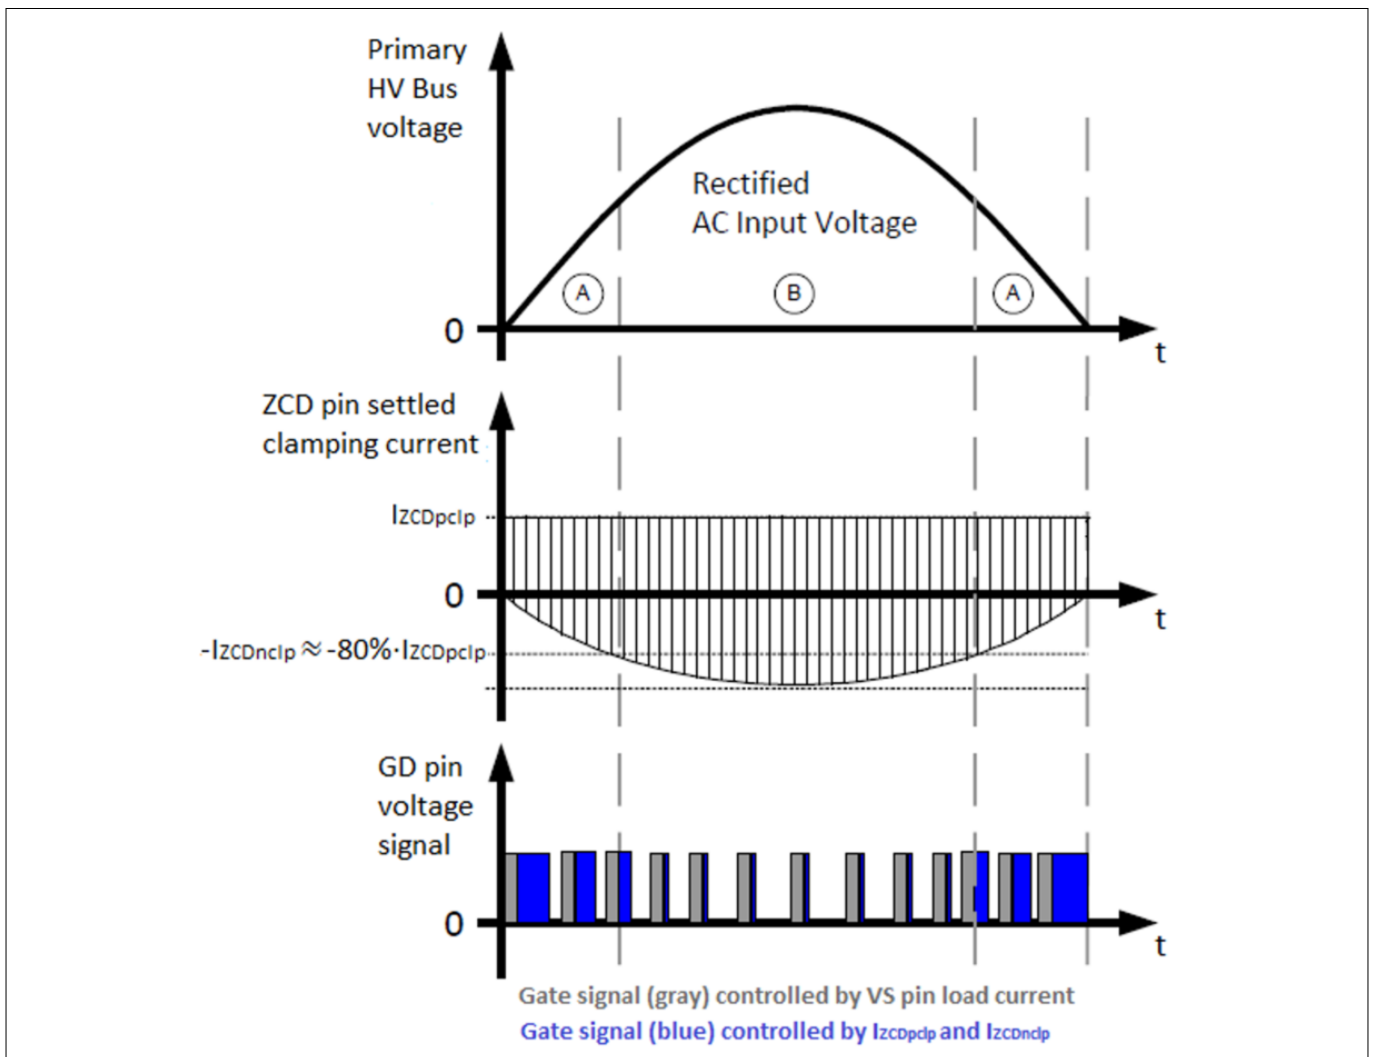

Figure 8 ICL8820S THD correction with on-time extension near AC input voltage zero crossing
As shown in Figure 8 area A, ICL8820S increases the on-time extension near AC input voltage zero crossing, where  $I_{ZCDnclp}$  is less than 80% of  $I_{ZCDpclp}$ .
- the on-time extension effect for THD correction (see Figure 8)